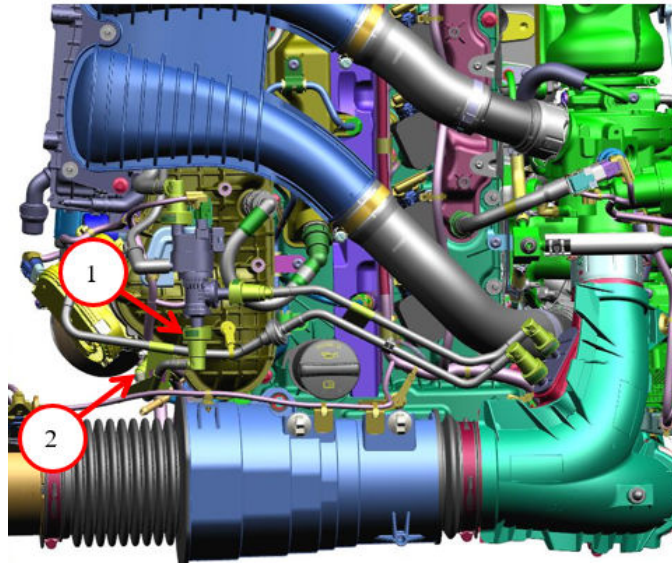

Fig. 4
6. Disconnect purge hose quick connect at the throttle body Fig. 4.
7. Disconnect the purge hose quick connect Fig. 4.
21. Connect the purge hose quick connect at the throttle body Fig. 4.
22. Connect the purge hose quick connect Fig. 4.